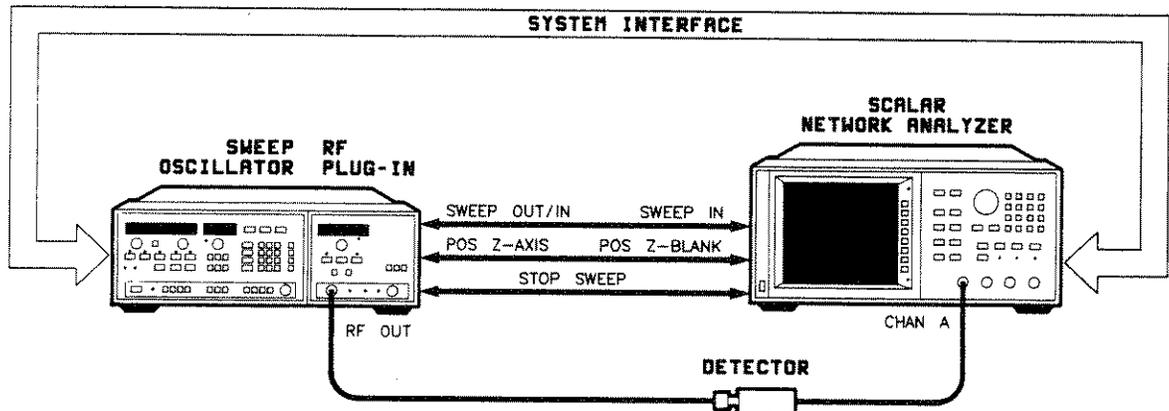

Figure 3-9. Peaking RF Output Power Setup
1. Connect the equipment as shown in figure 3-9 and let the instruments warm up at least 30 minutes.